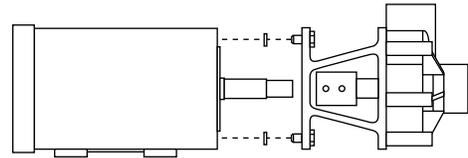

Figure 1
- b. Temporarily bolt the motor adapter to the motor, placing shims (flat washer - item 10) between the motor adapter and the motor using two hex-head cap screws (Item #11) 180° apart (see **Figure 1**).